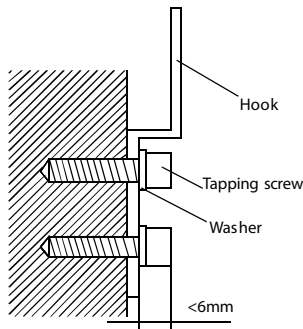

Fig. 7 — Hang the indoor unit
3. Once the hooks are secured, lift the unit and mount it on the hooks. Be sure the hooks are on the correct mounting locations on the back of the unit (see Fig. 7).